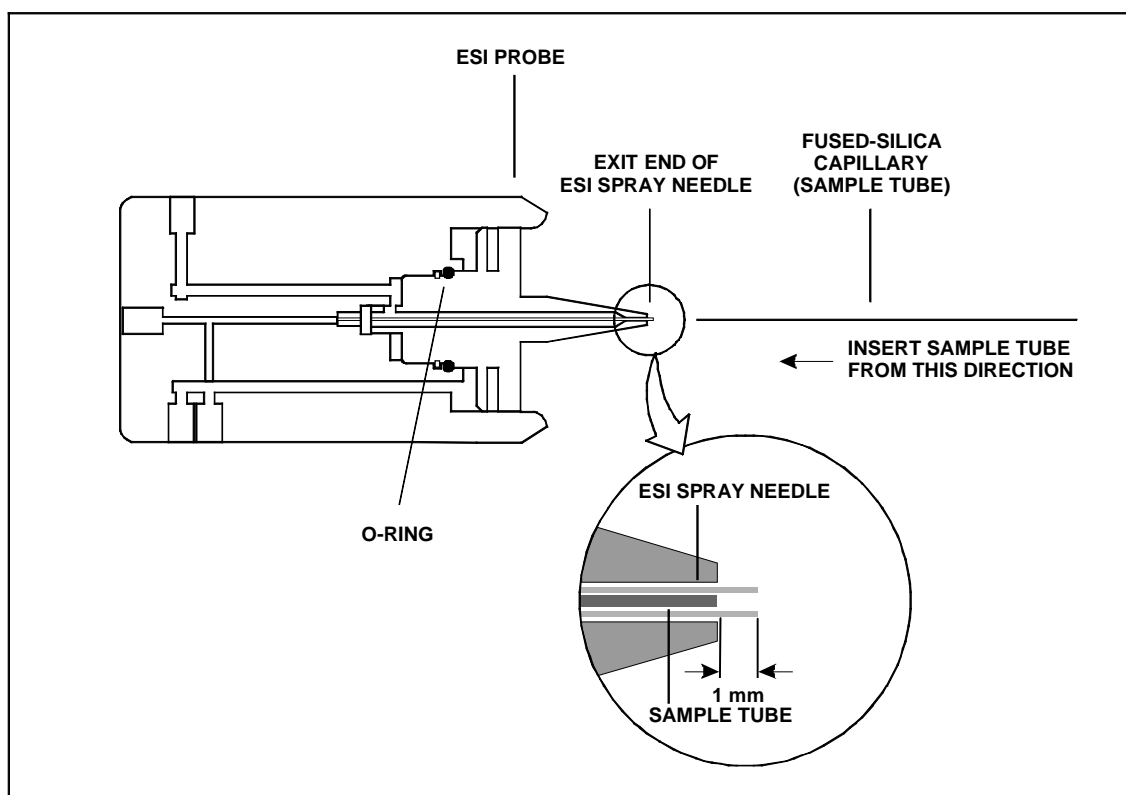

Figure 4-2. Installing the ESI fused-silica sample tube
- o. Use a fused-silica cutting tool to cut the sample tube at the spray needle so that only 2.5 cm (1 in.) remains protruding from the exit end of spray needle. See Figure 4-2.